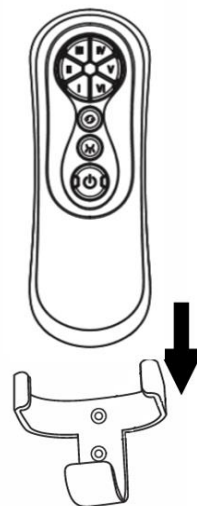

Fig. 11b
2. Slide the remote into the holder to rest the remote. (Fig. 11b)